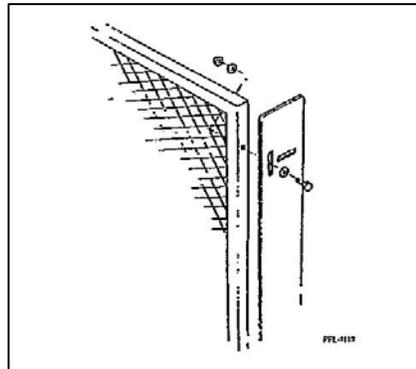

Figure 4
- 5. Filler panels are used to fill a gap of less than 6". **See Figure 4.**
2. Assemble spliced column pieces, **See Figure 4**. Use 5/8" bolts and nuts (two per splice) to help hold and align each piece of the column.